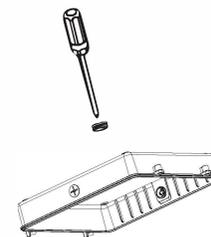

Figure 1-2
2. Loosen the 3/4 plug on the junction box cover by screwdriver; Figure 1-2